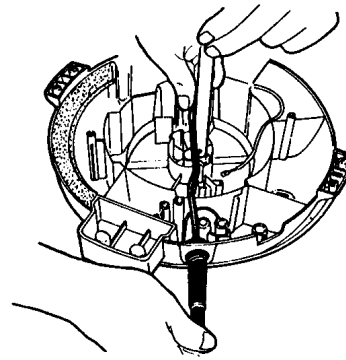
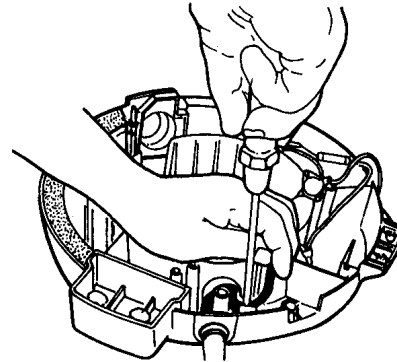

Fig.7
Fig.8
1. Pull the wire to the motor supporter center (Fig.7) and the wire accordingly into Body Cover strain relief. (Fig.8)